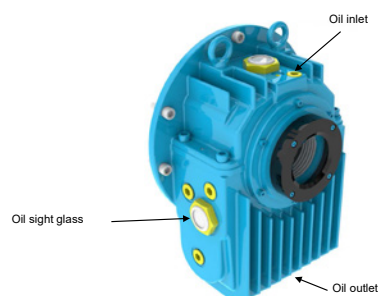

Figure 53 - Sleeve bearing
- Drain the oil through the drain hole located at the bottom of the bearing (see Figure 53);